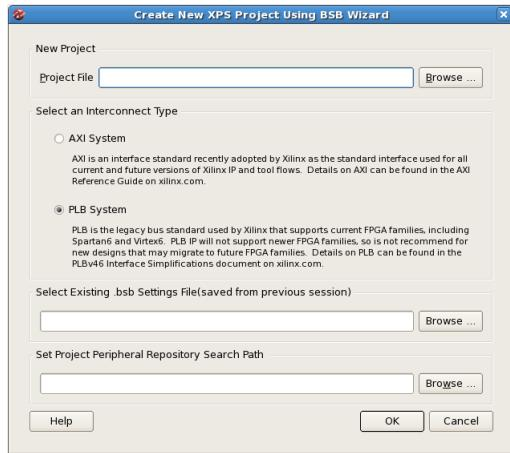

Figure 4.31: Choose PLB System and choose the project directory. Click Next
- Choose the “PLB System” as shown in figure 4.31